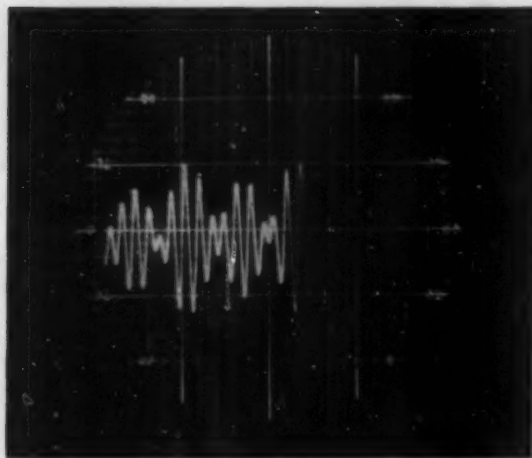

Fig. 6—Error voltage at the amplifier input. Time scale = 0.020 sec per division.
**Dynamic Response:** A rough check of the hydraulic motor-load resonance can be obtained from the oscillogram, Fig. 6, of error voltage at the input to the amplifier. Loop gain was increased until